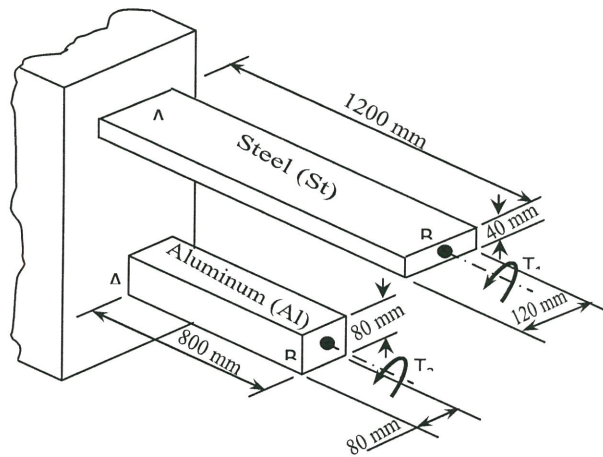

FIGURE Q4
- Q4** Two bars of steel and aluminum are subjected to torques as shown in **Figure Q4**. If the allowable shear stress for steel bar is 70 MPa and for aluminum is half of the steel, determine: